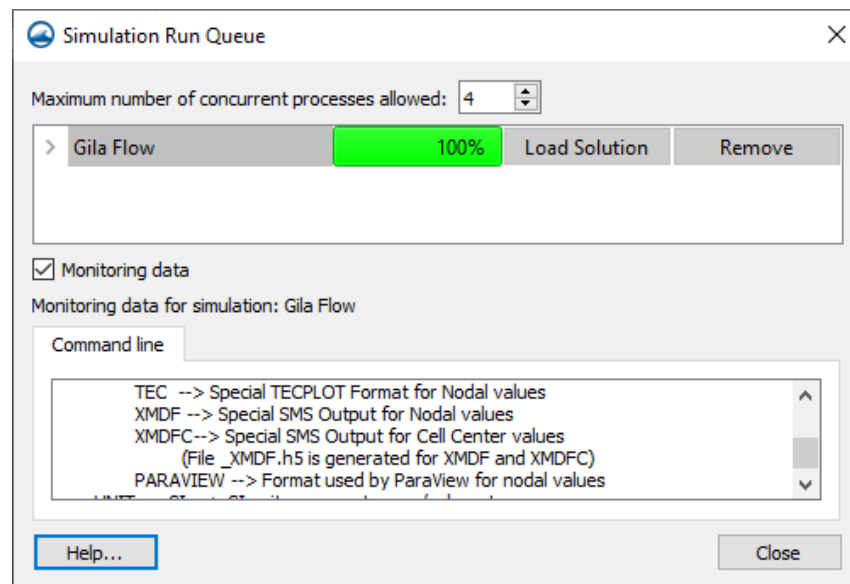

Figure 5 SMS Model Wrapper
2. Click **Yes** if a warning is displayed stating that the “BC” coverage will be renumbered before exporting. This brings up the *Simulation Run Queue* dialog (Figure 5).